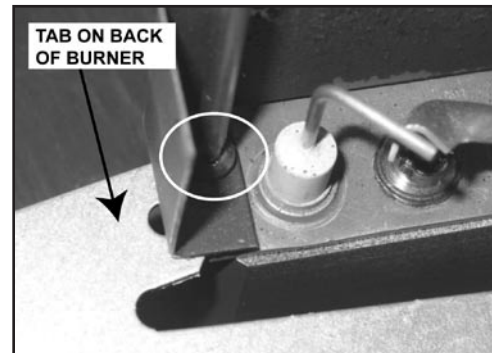

Figure 6.5
20. Before reinstalling the burner, ensure that the shutter setting is fully open. Slide the tab on the left side at the back of the burner under the pilot bracket. (see **Figure 6.5**). Retighten the screw.